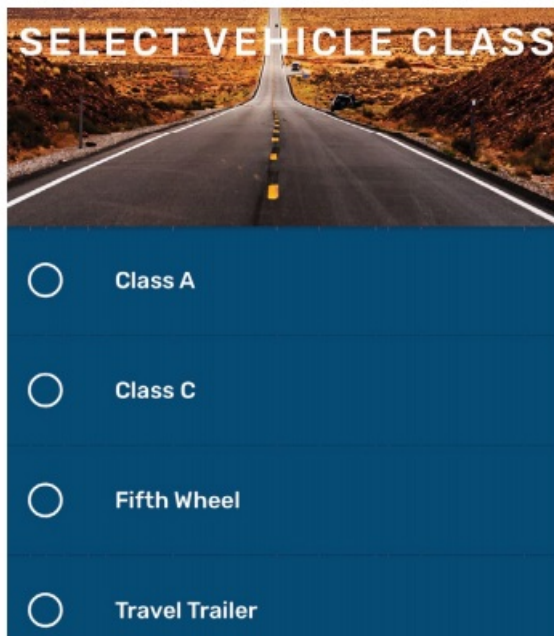

Fig.8
7. Select a vehicle class (**Fig.8**) and press continue.